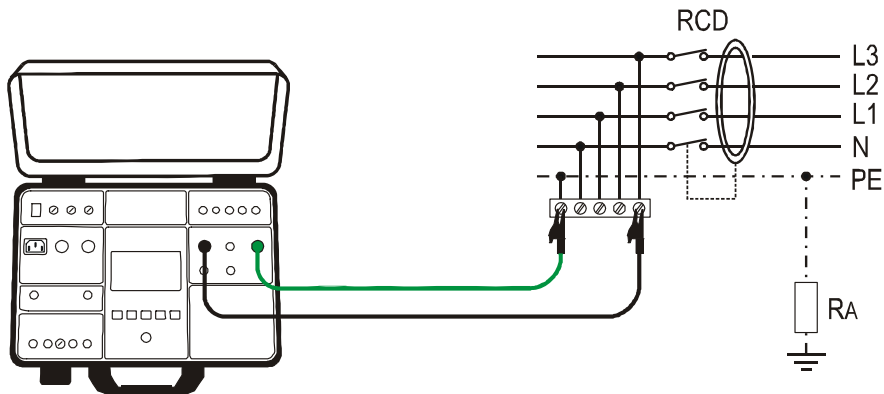

Figure 27: Connection of test leads to tested wiring for LOOPL/PE measurement
- 5) Carry out the measurement by pressing the **START/STOP** button. Test result will be displayed after elapsing measurement time in green colour equipped with green  symbol and with beep-beep sound if it is lower than or equal to limit value (see the explanation of limit value above). If the result is higher than limit value, then it will be displayed in red colour equipped with red  symbol and with longer beep sound. See the display outlook with test result on the figure 27.